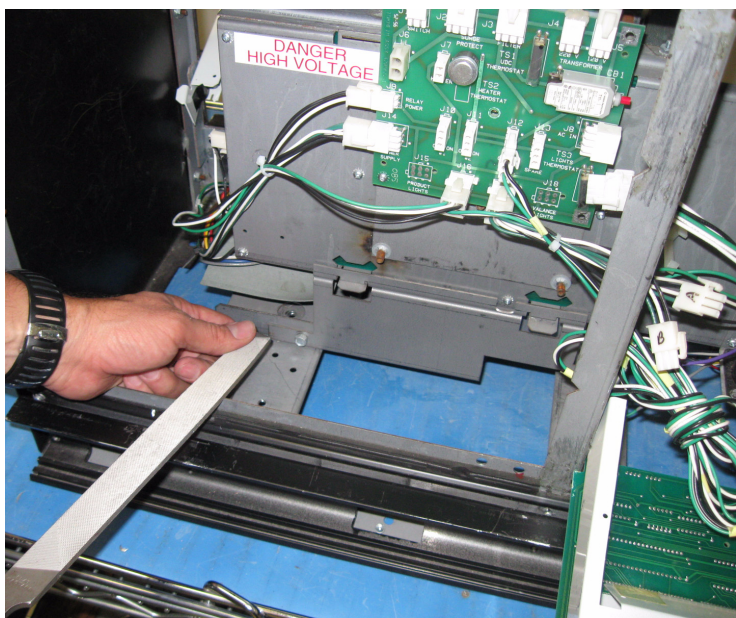

FIGURE 9
9. Use a metal file to file down the sharp edges on the remaining sheet metal bracket. See Fig 9. Be sure to use a cloth or other material to capture and remove metal filings from the electronic head.